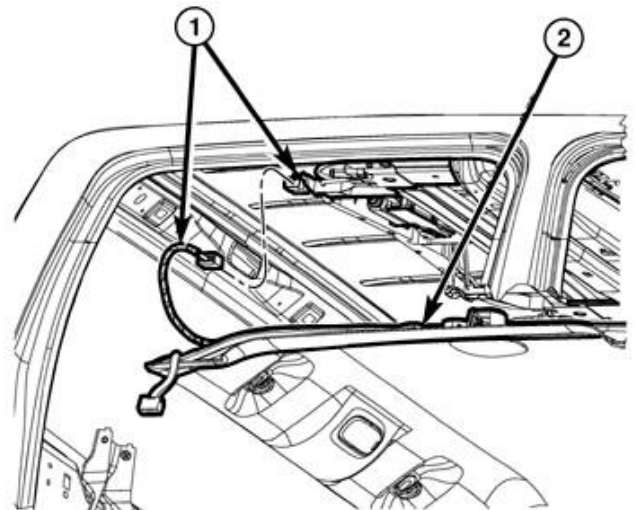

Figure 36 – Headliner Harness
27. Carefully lower the headliner (2) allowing it to rest on the seat backs and instrument panel (Figure 36).
CAUTION: Disconnect any wiring harness electrical connectors (1) as necessary to allow enough wiring harness slack while lowering headliner. It will not be necessary to remove the headliner from the vehicle (Figure 36).
40. Raise the headliner into proper vehicle position and connect any electrical connectors previously disconnected from the headliner (Figure 36).